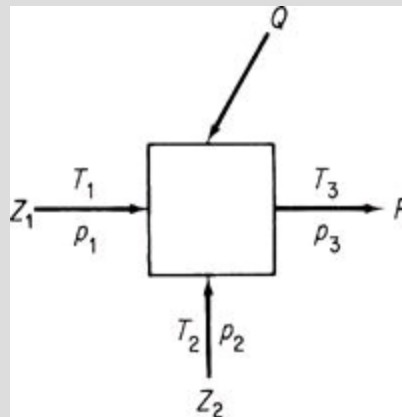

Figure E12.1b
b. Mixer (Figure E12.1b): For this process we assume that $W = 0$, but Q is not.